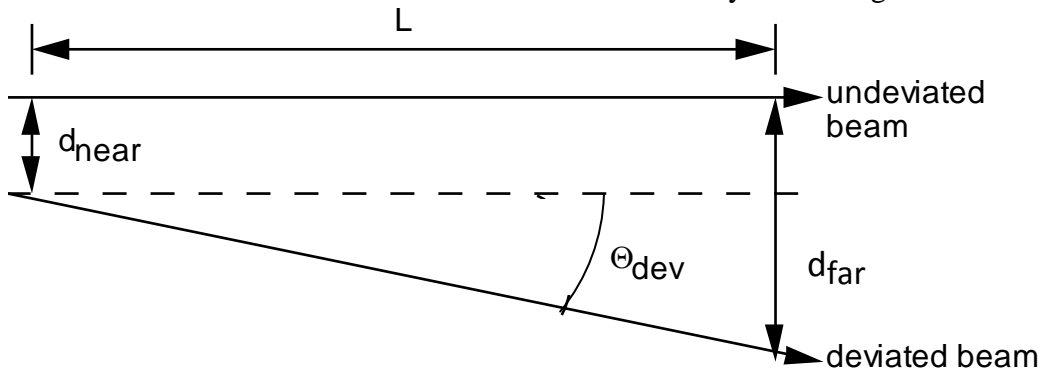

Fig. 5: Deviation of beam going through slab.
8. In practice, the laser beam may emerge not only parallel-displaced laterally as the theory of the optical micrometer suggests, but also making some angle Θ_{dev} with respect to the incident path. This might happen, for example, if the slab is not a perfect rectangle (see figure 5 below). If the displacement is strictly parallel, the displacements for the near and far positions should be identical for each incidence angle. Use your section 6 data and the equation below for the deviation angle in *radians*: